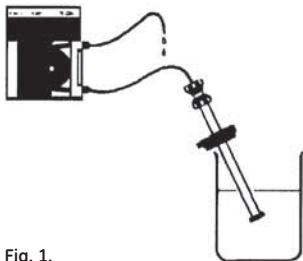

Fig. 1.
3. Wet the adaptor by drawing water through it, making sure no air bubbles are trapped under the net. This is best done by submerging the plunger in a beaker of water and attaching the tubing to a pump (Fig.1) or a syringe. Close the tubing with a stopper when all air bubbles have been removed.